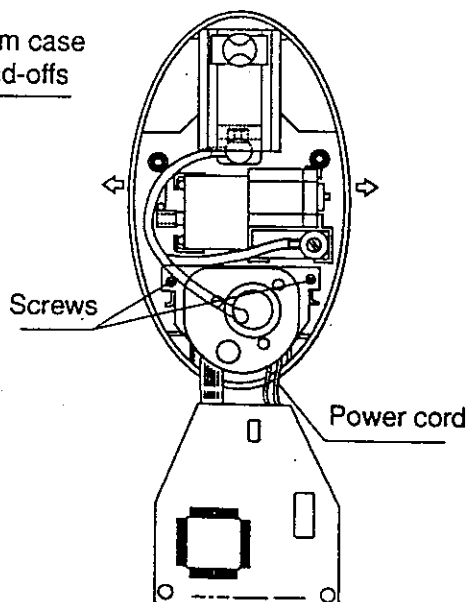

Fig. 4
- Step 2** See Fig. 4. Remove PA-0156S1 from stand-offs. (No screws.)